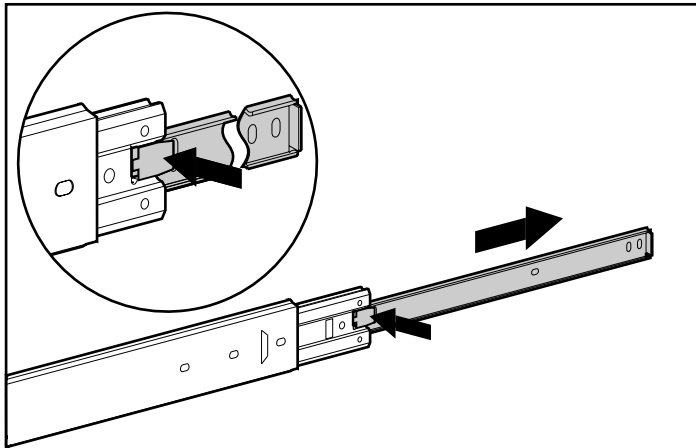

Figure 3-3: Removing the component rail from the bracket rail
2. Extend the component rail from the bracket rail until the component rail release latch clicks. Holding down the latch, slip the component rail out of each bracket rail, as shown in Figure 3-3.